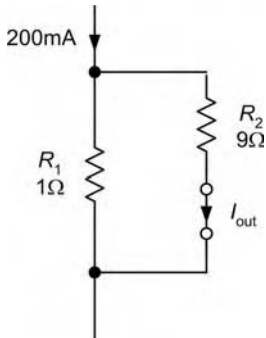

Figure 5.67
7. Determine the unknown current in Figure 5.67.